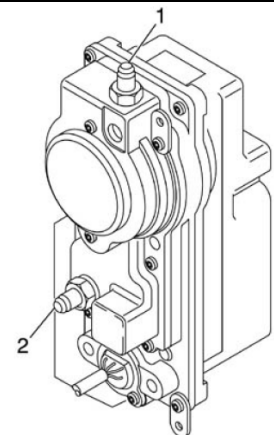

FIGURE 20
25. Connect the coolant lines to the actuator and tighten the fittings (FIGURE 20).